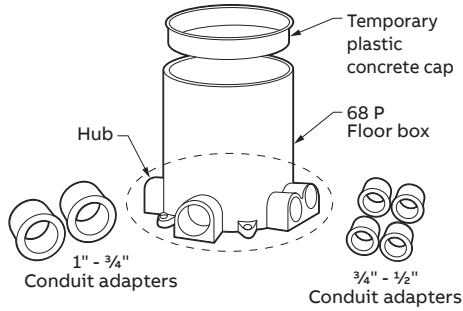

Figure A.1 - 68 P Floor box
- Temporary Plastic Concrete Cap for Box, see Figure A.1 - Quantity = 1